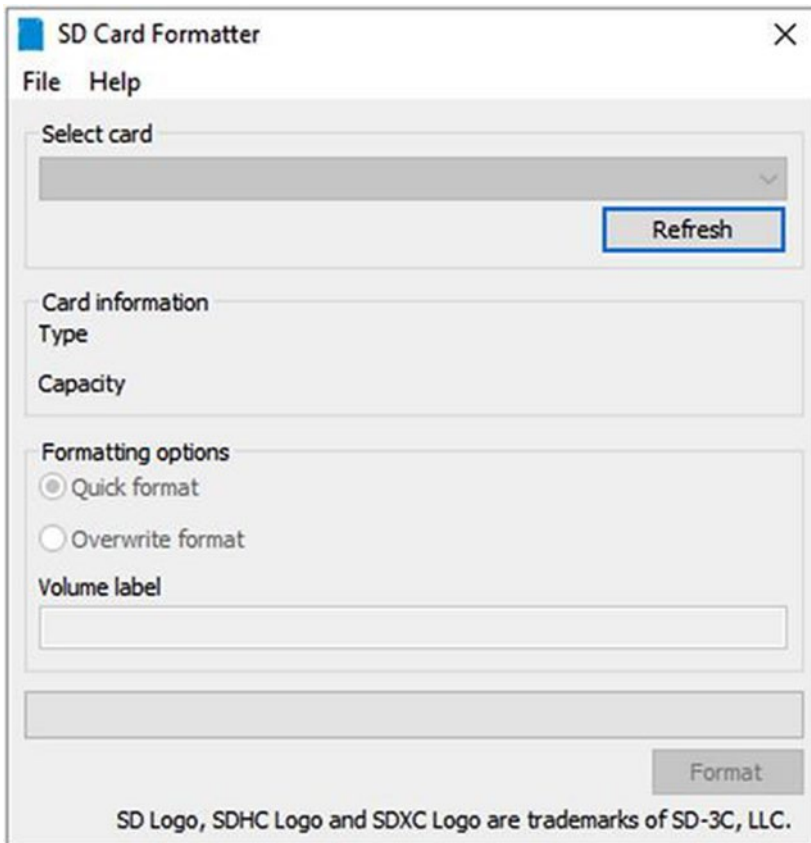

Figure 2-2. *SD Card Formatter*
7. If you have downloaded and installed SDFormatter, open it. You should see a dialog box similar to the one shown in Figure 2-2.